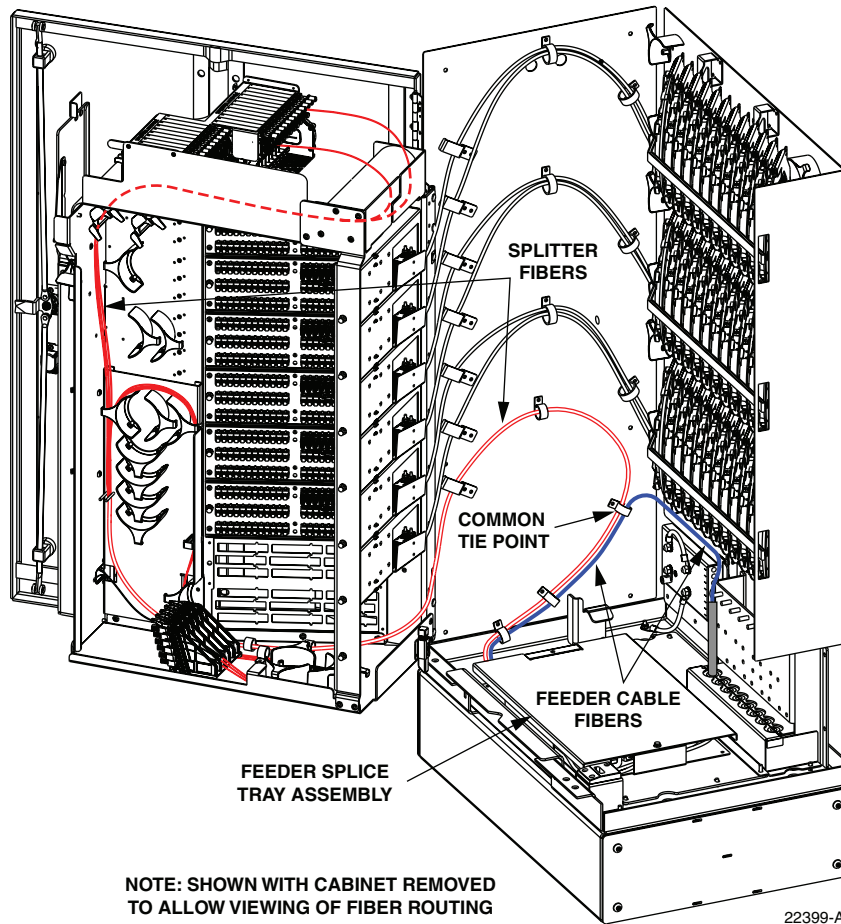

Figure 22. Feeder Splice Tray and Feeder/Splitter Fiber Routing
1. Locate the feeder splice tray which is mounted at the bottom of the cabinet, as shown in Figure 22, and locate the splitter input fibers which are routed to the feeder splice tray.